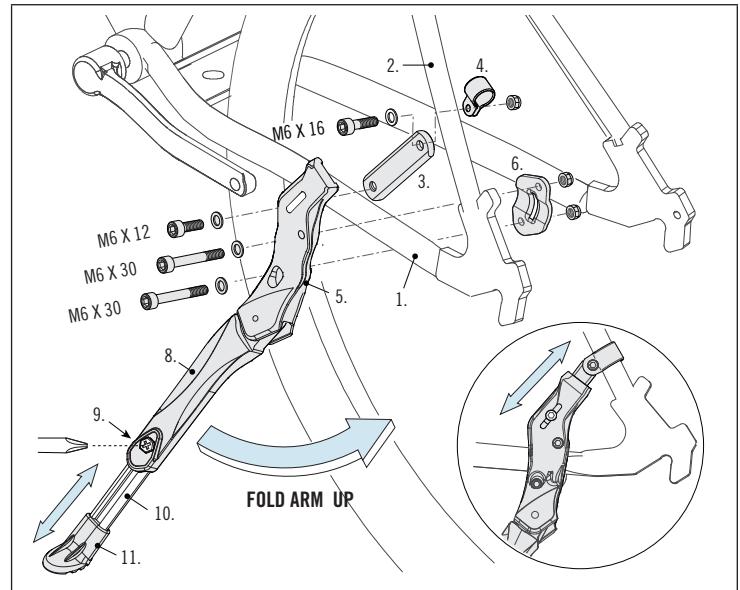

Figure 1.
**Installation & Adjustment :** (Figure 1.) Install the rear mount kickstand by clamping it onto the frame non-drive side chainstay (1) and seat stay (2). The chainstay connecting arm (3) and chainstay clamp (4) are adjustable to accommodate different fitting positions. Make sure the pad material on inside surface of the chainstay clamp (4) kickstand body (5) and clamp (6) cover contact area with frame. The length of the extending arm (10) is adjustable. To do it, loosen the set screw (9) with a philip screw driver, set extending arm (10) length so the foot (11) is positioned on the ground. Tighten the set screw (9) securely when finished.